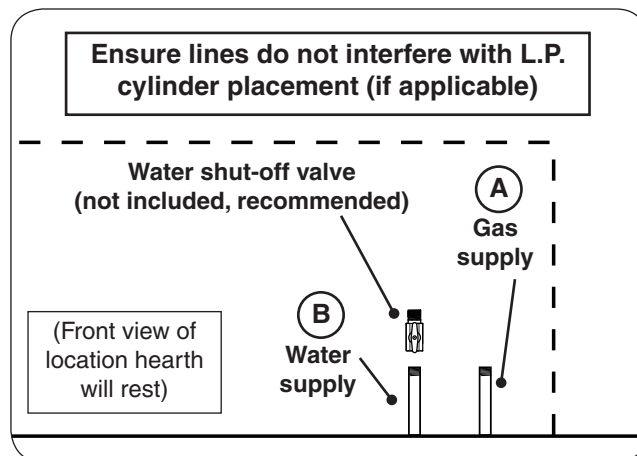

Fig. 18-1 Route gas and water supply
1. Route the gas supply into the area that the hearth will rest over (see Fig. 18-1, A).
1. Plumb the water supply into the area that the hearth will rest over (see Fig. 18-1, B).
Note: It is recommended that a water shut-off valve (not included) be attached to the water supply line. It can be installed remotely or at the end of the water supply line. See Fig. 18-1, B for an example.